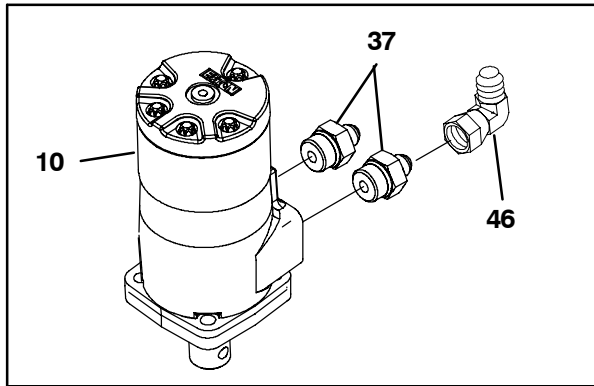

FIG. 1
1. Apply lubricant onto the o-rings of the two straight fittings (37) and thread the fittings into the brush motor (10). Refer to Fig. 1.
2. Thread a 90° fitting onto one straight fitting (37) installed on the brush motor (10). Refer to Fig. 1.